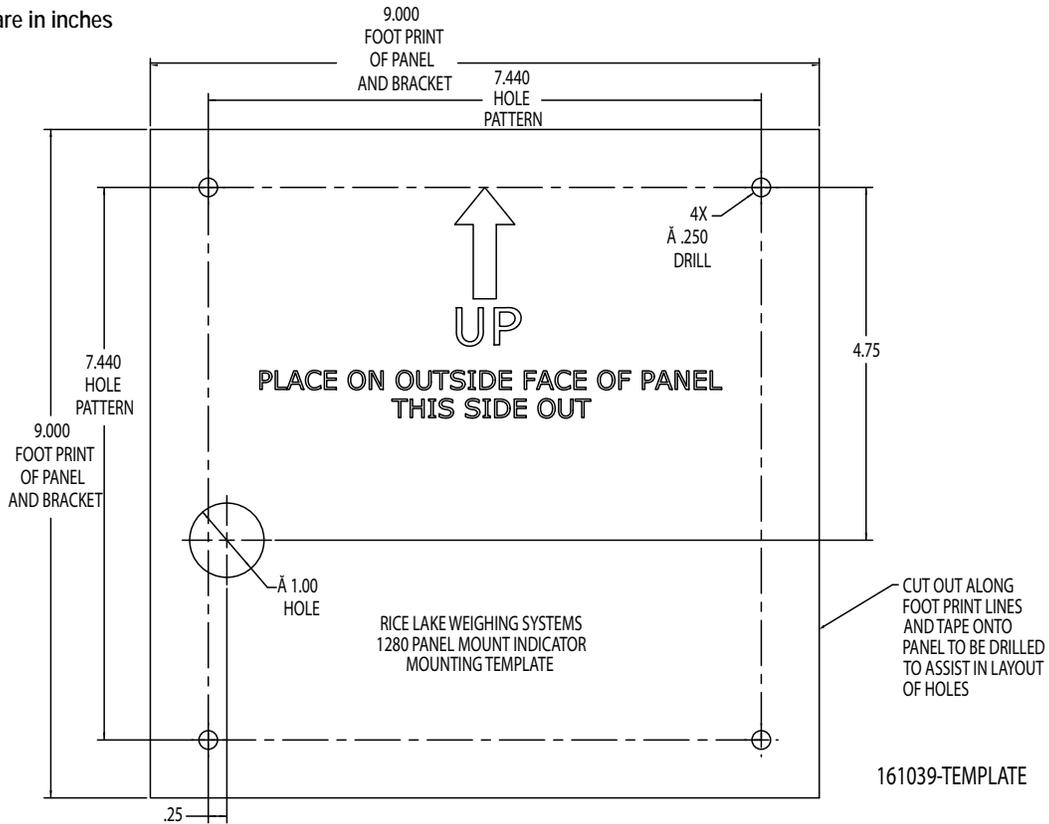
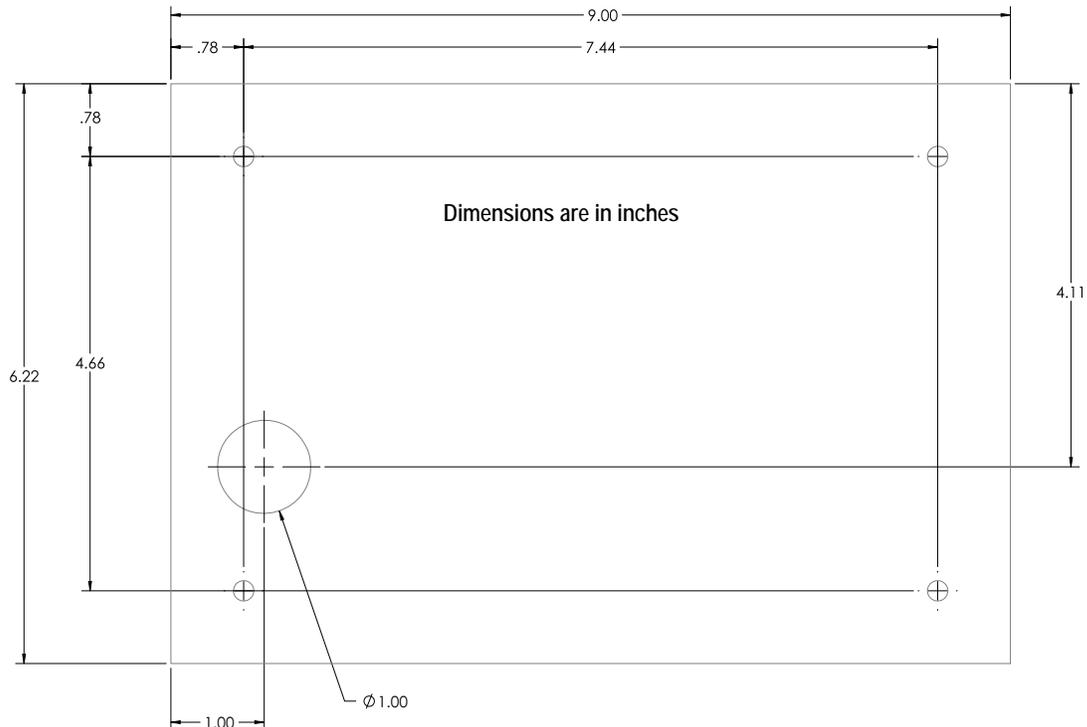
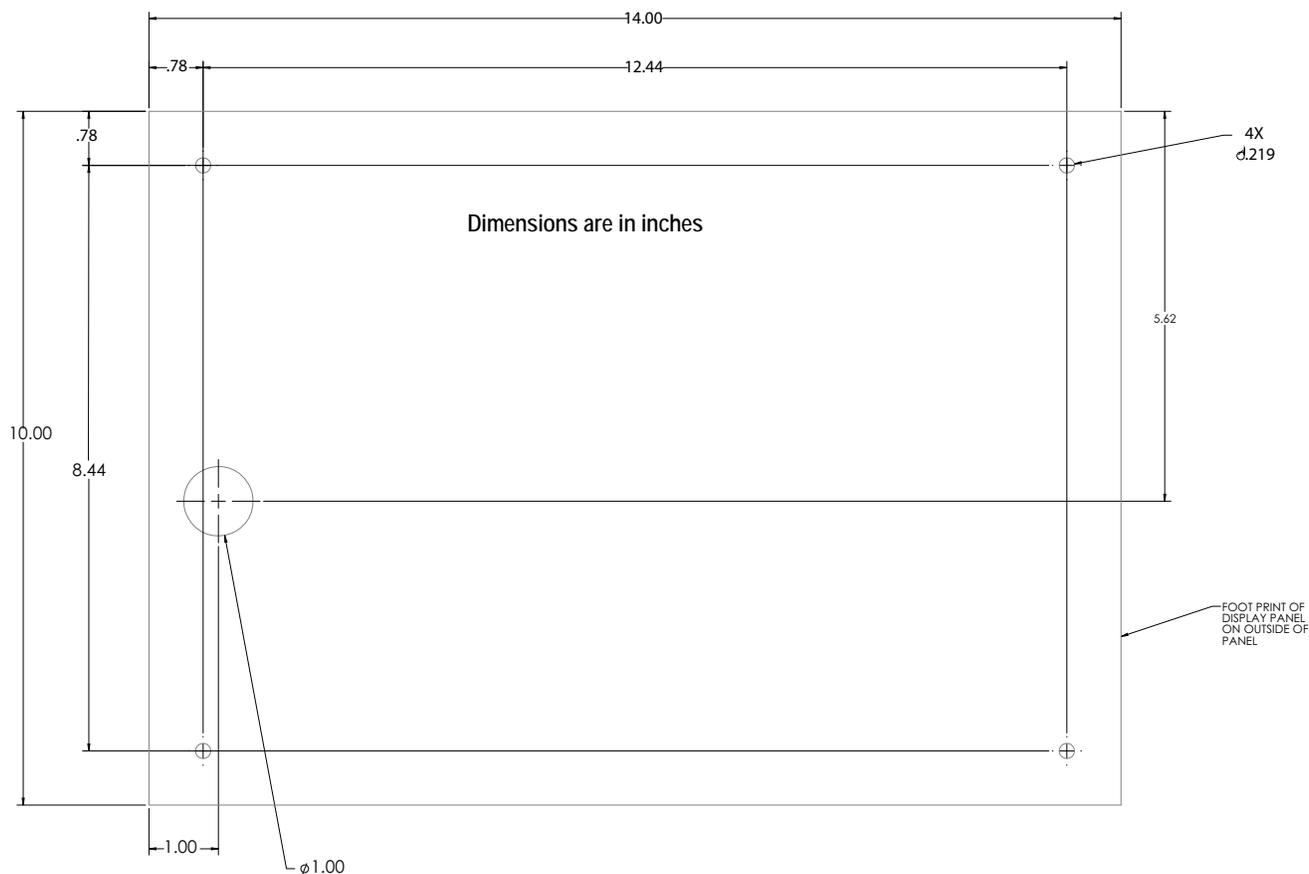

Figure 2-17. Panel Mount with Keypad Dimensions
Figure 2-18. 7 Inch Touch Only Panel Mount Dimensions
Figure 2-19. 12 Inch Touch Only Panel Mount Dimensions
1. Tape the panel mount template to the outside of the panel. See Figure 2-15 and Figure 2-17.
These illustrations are not to scale. It is for illustration purposes only. Use the dimensions to mark the holes for the panel mount, or use the template provided with the indicator. Do NOT use Figure 2-17, Figure 2-18 and Figure 2-19 as a template.